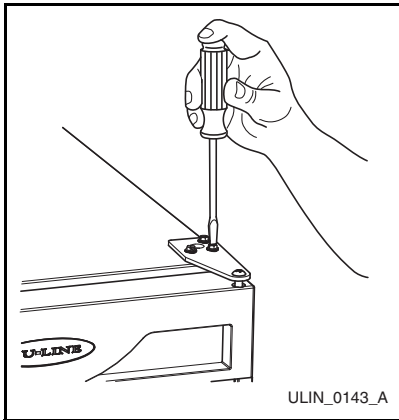

Figure 9
2. If the unit is not level, adjust the feet on the corners of the unit as necessary (**Figure 9**).